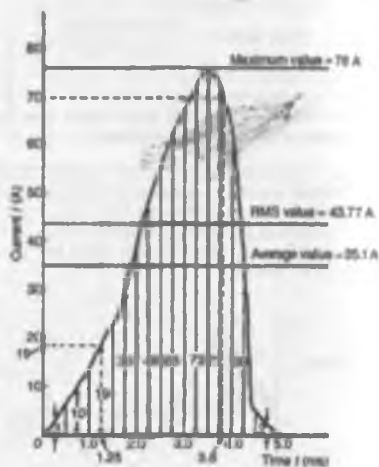

Figure 14.6
The half cycle of alternating current is shown plotted in Fig. 14.6
- (b) Instantaneous value of current after 1.25 ms is 19 A, from Fig. 14.6. Instantaneous value of current after 3.8 ms is 70 A, from Fig. 14.6
$$\begin{aligned} \left. \begin{array}{l} \text{area under} \\ \text{curve} \end{array} \right\} &= (0.5 \times 10^{-3}) [3 + 10 + 19 + 30 \\ &\quad + 49 + 63 + 73 + 72 + 30 + 2] \\ &\quad (\text{see Fig. 14.6}) \\ &= (0.5 \times 10^{-3}) (351) \end{aligned}$$